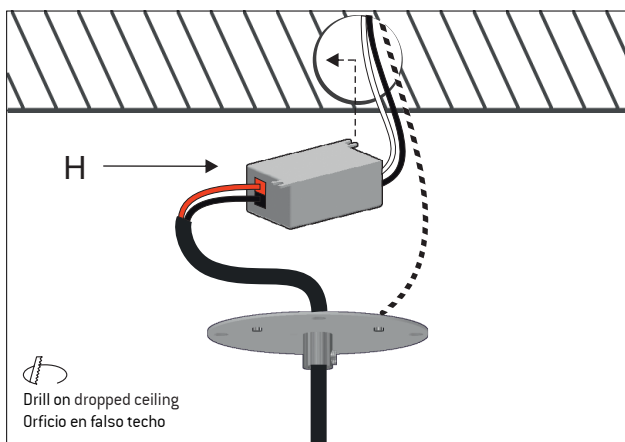

Figure 10
10 - The ceiling hole should measure 55mm of diameter. Make the electrical connections and place the remote driver (H) inside the ceiling. Figure 10